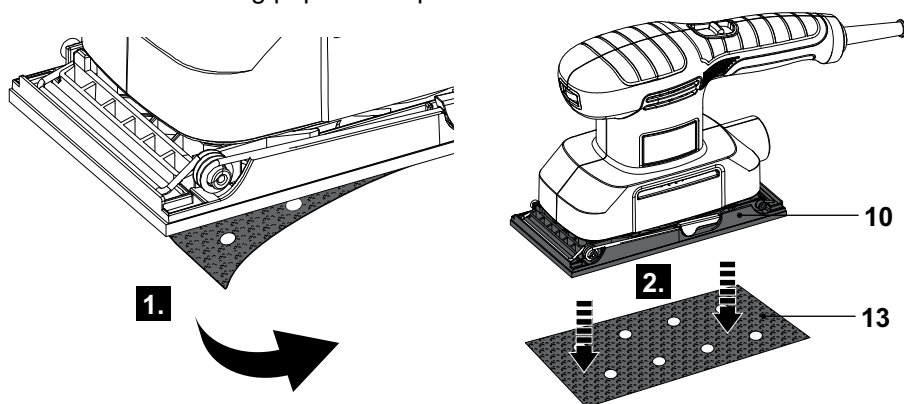

Fig. 2
- > Grip one corner of the sanding paper (13) and pull it off the base plate (10) (Fig. 2).